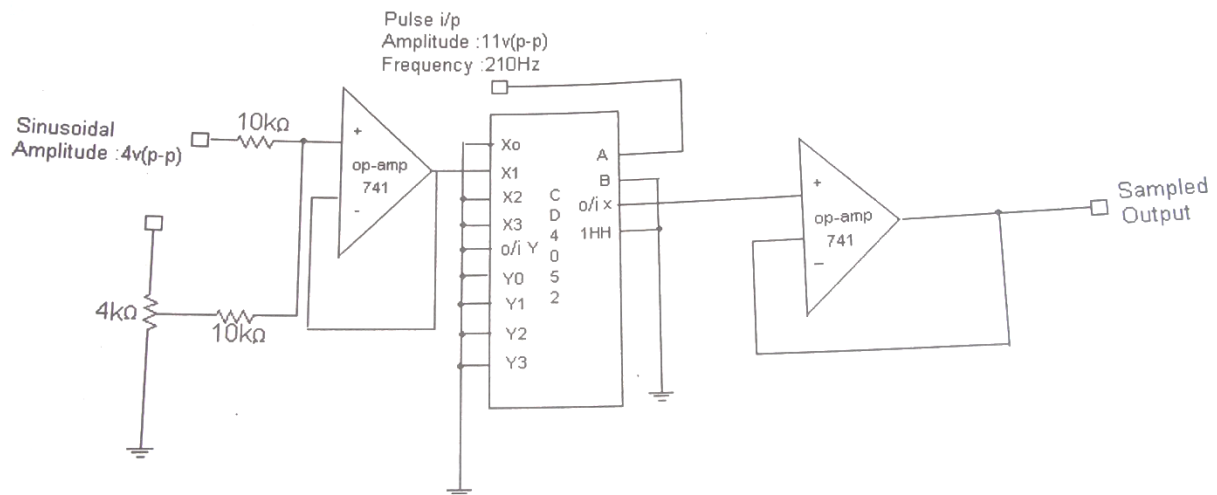

Fig: 1 Sampling Circuit
1. The circuit is connected as per the circuit diagram shown in the fig1.